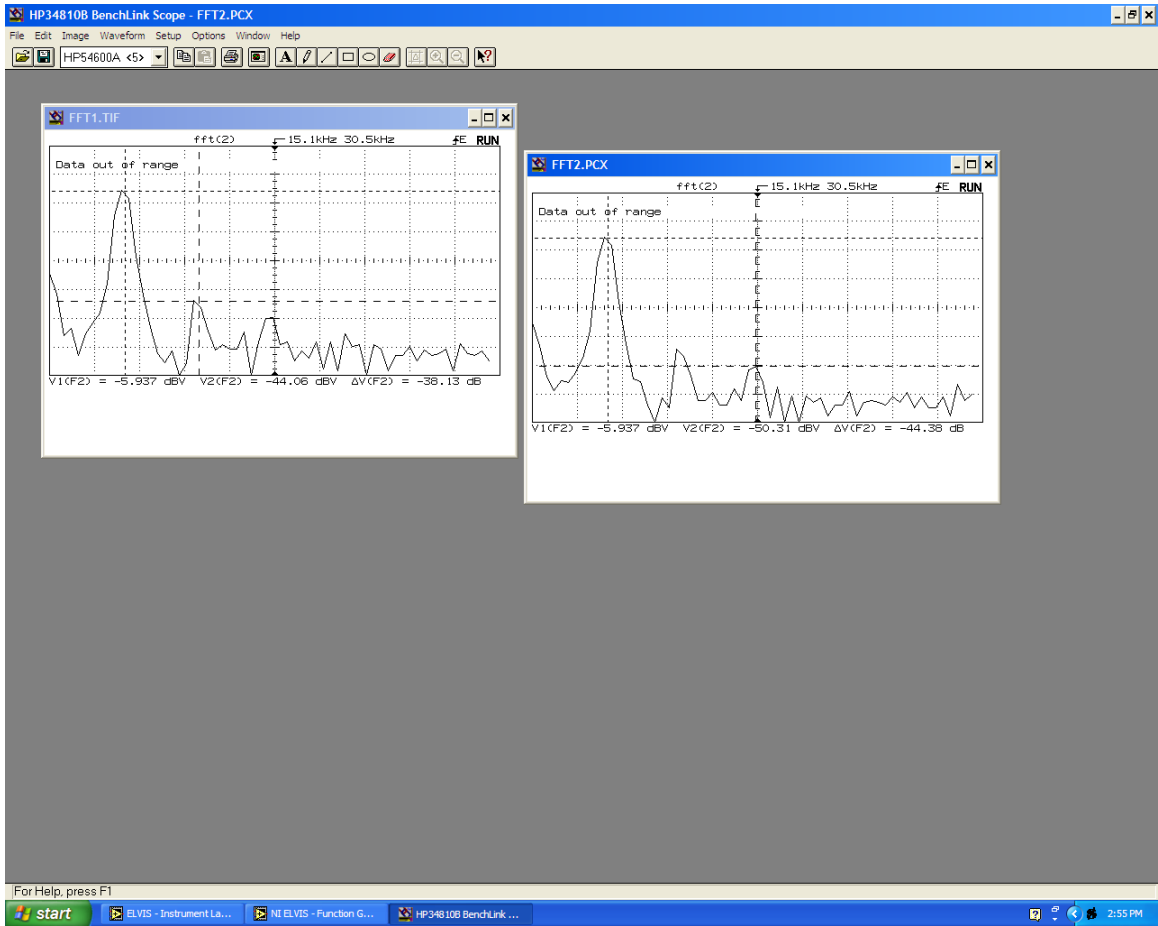

Figure 2.16: HP BenchLink Scope showing captured FFT plots
11. To plot a screenshot of your waveform to the PC, open the program “*HP BenchLink Scope*”. Click “*Image → New...*” then click “*Ok*” on the window that pops up. The program takes about 5 seconds to copy the oscilloscope window. See figure 2.16. To save the image, click “*File → Save As...*” and use the .TIF file extension.